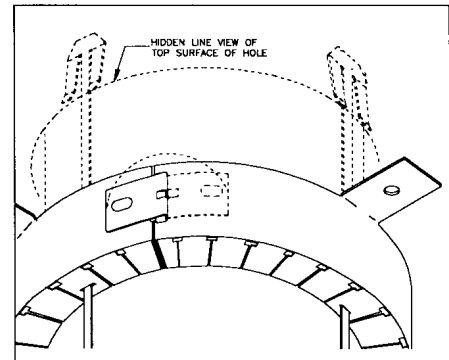

Figure 4: Slide straps through, PPD flush, lock, secure
D. Slide the Ultra Fast Anchor Straps through the annular space between the pipe and edge of the opening until they catch the opposite edge of the opening. (Figure 4 & 8)
E. Slide the PPD flush against the substrate surface and close PPD to final locking position on latch, then bend latch tab completely over to secure. (Figure 4)